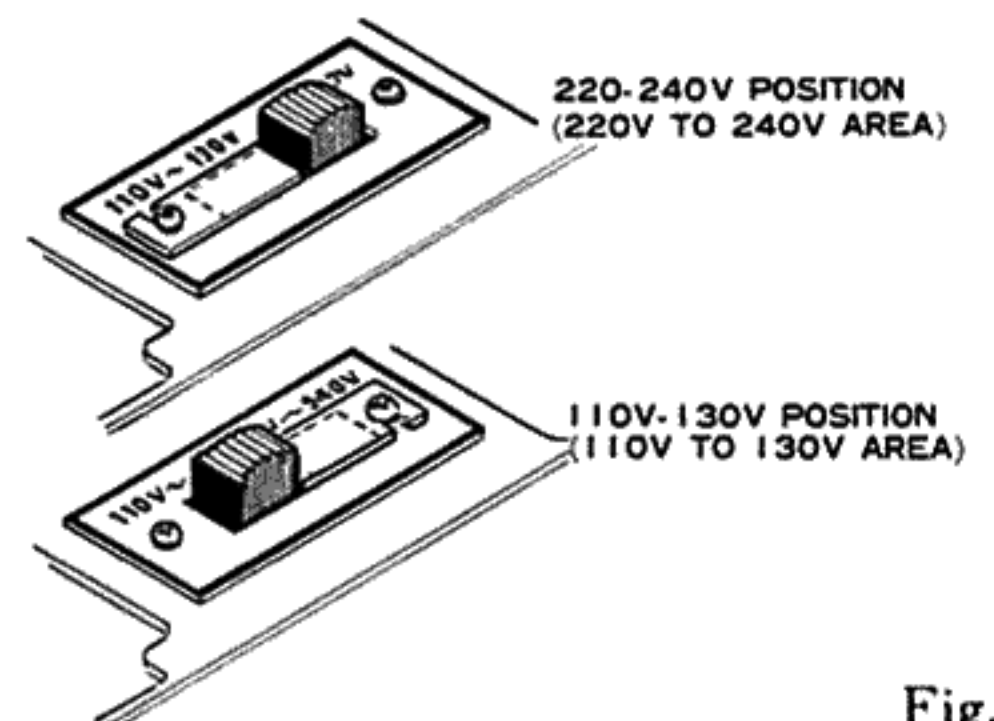

Fig. 2
1. Fig. 2 shows the location of the line voltage selector switch and lock plate. Remove the screw in the lock plate with a Philips screwdriver (not furnished) to free the lock plate.